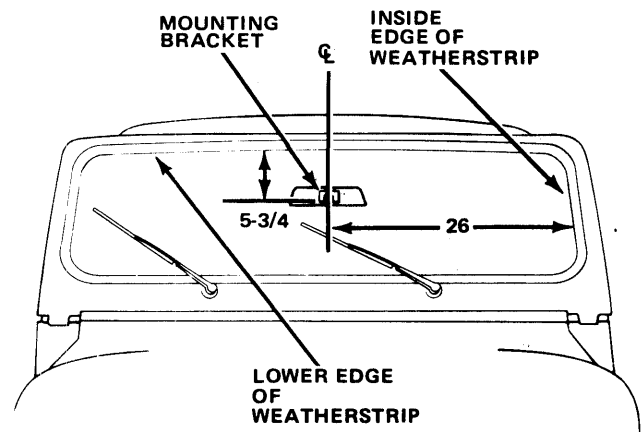

Fig. 17-5 Windshield Mounted Rear View Mirror Bracket Location (Inches)—CJ Models
- (1) Locating windshield mounted rear view mirror bracket can be accomplished as shown in figures 17-5 and 17-6. Use wax pencil on outside of glass to locate mounting bracket.
- (2) If vinyl pad has remained on the windshield glass, apply low heat with an electric heat gun until vinyl softens. Then, peel pad from glass using care not to scratch or mar the glass surface.
(6) Apply one drop of adhesive at the center of the mirror bracket bonding surface. Use bottom of adhesive tube to distribute the adhesive evenly over the entire surface.
(7) Position bottom straightedge of the bracket on the horizontal line (fig. 17-5 and 17-6). Press bracket to glass and hold firmly for one minute. Be sure bracket is properly located as adhesive sets quickly.